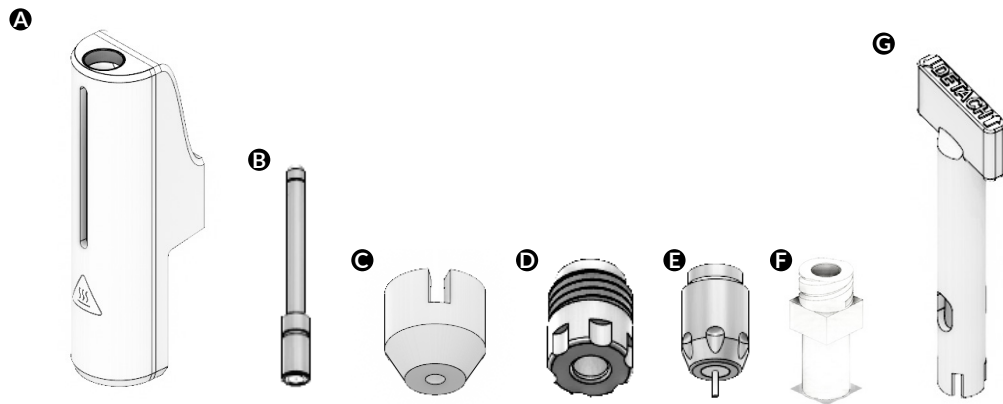

Figure 3: Package contents include:
1. Open the package. Remove the pre-assembled EMD Printhead and other components (Figure 3).